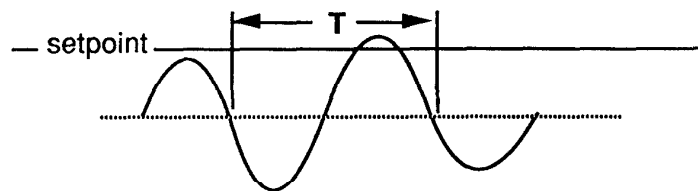

Figure C.6. Determining the period of oscillation, T , with the closed-loop cycling method.
Tuning with the Zeigler-Nicholls method requires forcing the system to oscillate. By placing a proportional-only controller (no integral term) in oscillation by setting the proportional band to a very small value, the control loop cycles with a characteristic frequency (Figure C.6). This characteristic frequency is a very accurate representation of the system's responsiveness and is used to derive the integral time constant.
- Reduce the value of **ProP** until the measured value oscillates. Measure the period of oscillation **T** as shown in Figure C.6.
The first thing to do is to compare the period of oscillation (Figure C.6) to the integral time constant setting; the integral time constant should be at least as long as the period of oscillation. If the integral time constant is shorter than the period of oscillation, it should be increased to at least that value. If the loop continues to oscillate with the appropriate integral term, the proportional band should be increased to eliminate the oscillation.